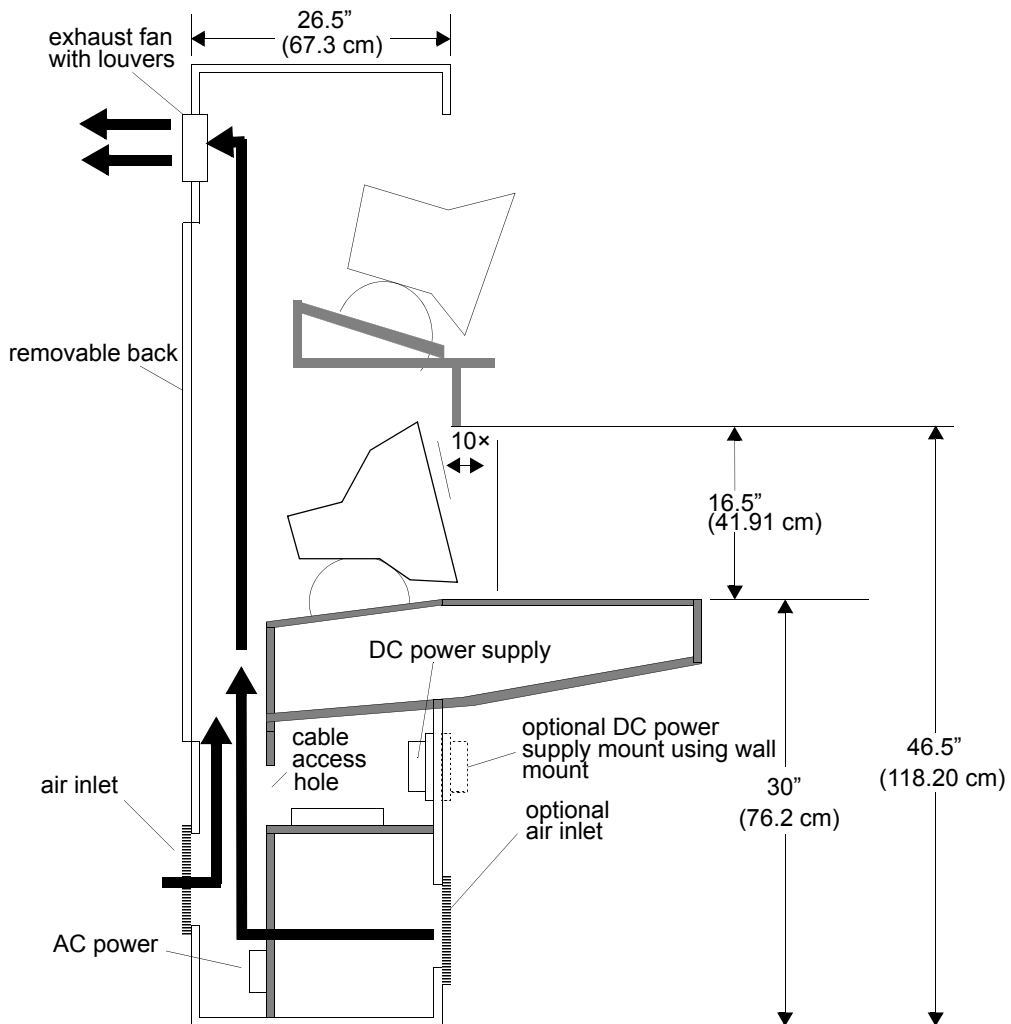

Figure 2-4: Minimum cavity sizes for console setup
An example console design is shown in *Figure 2-4*. This figure shows the minimum dimensions required to satisfy the above requirements.
- *When mounting the Ultraview 1600 as shown in Figure 2-4, this cabinet specification may not allow for appropriate clearance for displays larger than 15 inches (38.1 cm).*